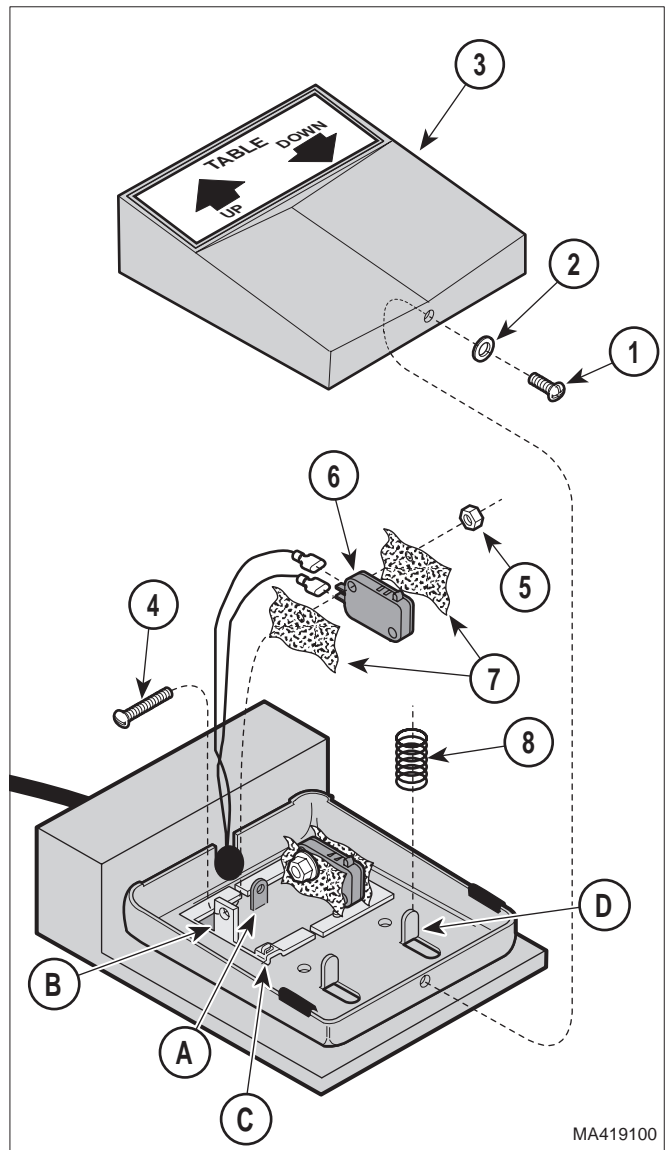

Figure 4-20. Footswitch Microswitch Removal / Installation
- (1) Disconnect the power cord from the wall outlet.
- (2) Remove the pivot screw (1, Fig. 4-20) and lockwasher (2) from the footswitch pedal (3).
- (3) Remove the pedal (3) by lifting the end of it upward and pushing back toward the cord end of the footswitch assembly to unhook the pedal (3) from the pivot bracket (A).
- (1) Using the location tags, previously placed on the electrical leads, connect the electrical leads to the microswitch (6, Fig. 4-20). If necessary, refer to Wiring Diagram, para 5.1.